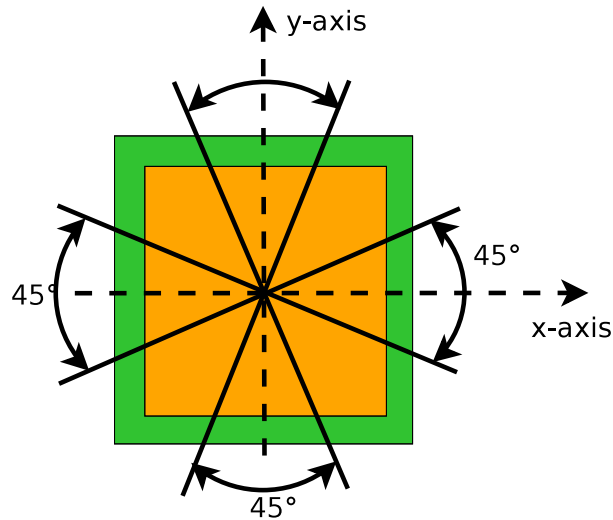

Figure 3.5: Example of rotational alignment (numberOfRotations=4 and rotationalTolerance=22.5 deg)
- **rotationTolerance**: the tolerated angle difference with respect to each of the allowed docking rotations (see figure 3.5).
- **numberOfRotations**: specifies how many different docking rotations are allowed in a full 360 degree rotation around the `Connector`'s `z`-axis. For example, modular robots' connectors are often 1-, 2- or 4-way dockable depending on mechanical and electrical interfaces. As illustrated in figure 3.5, if `numberOfRotations` is 4 then there will be 4 different docking positions (one every 90 degrees). If you don't wish to check the rotational alignment criterion this field should be set to zero.